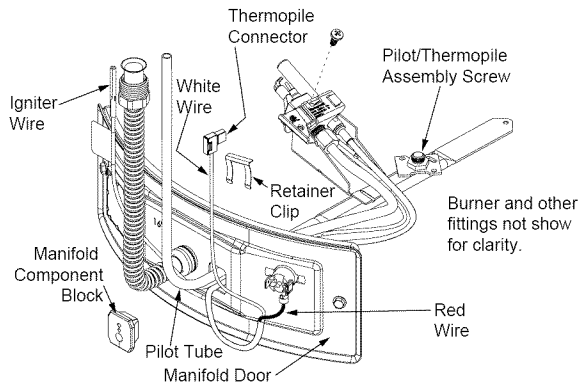

FIGURE 36.
4. Lift the retainer clip straight up from the back of the manifold component block (using a flat-blade screwdriver), then remove the manifold component block from the manifold door (Figure 36). **IMPORTANT:** Be careful not to bend or alter the position of the pilot tube, it will be used